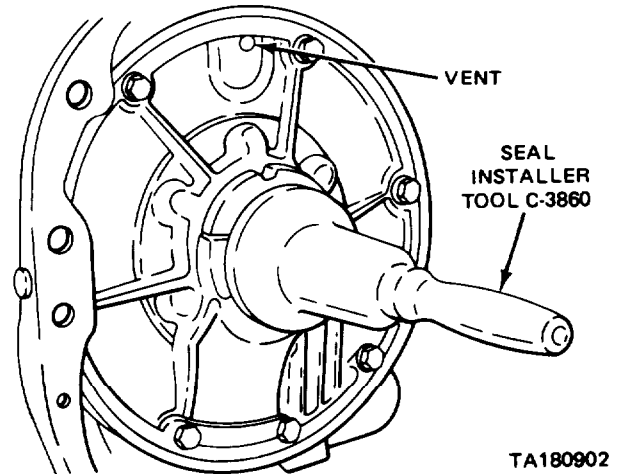

Figure 4-41. Installing pump Oil Seal.
(3) Apply sealer to the outer diameter of the new seal.
(4) Place a new seal in the opening of the pump housing with its lip facing inward. Use tool C-3860 to drive the seal into the housing until the tool bottoms (figure 4-41).